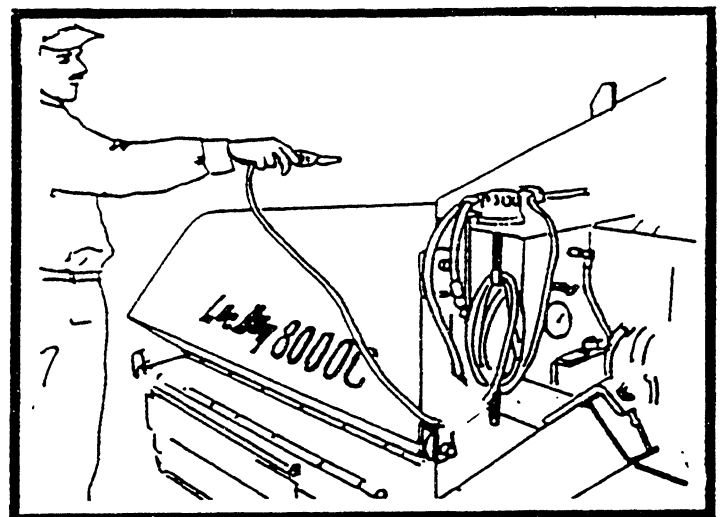

FIGURE 20
1. Raise screed and extend fully on both sides. Lubricate screed inserts with fuel oil and run the extendable screed in and out several times. Make sure end gate depth screw handles are locked after moving extensions to the desired depth. Spray the hopper, feeders and augers, auger gates of the screed plate with fuel oil as shown in figure 20 and 21.
- D. It is the operator's job to guide the truck up to the paver and signal the driver when and how much to dump into the hopper. Truck drivers must maintain a light pressure on his brakes to keep truck from dumping material on the roadway. See figure 20. If your paver is equipped with a truck hitch, the truck driver will not be required to maintain pressure on the brake. See page 10, figure 7.